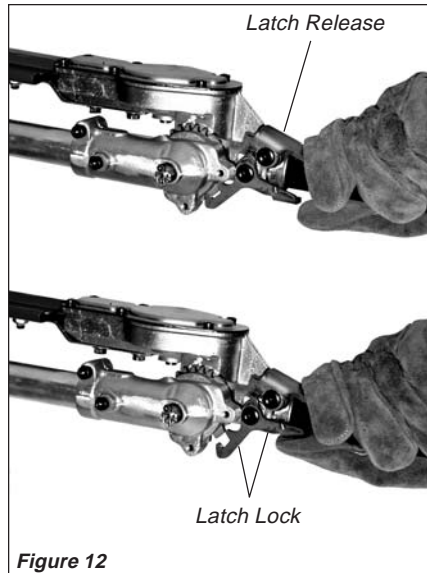

Figure 12
2. With the index finger of your left hand, press the latch release. With your left thumb, press the latch lock. See Figure 12.